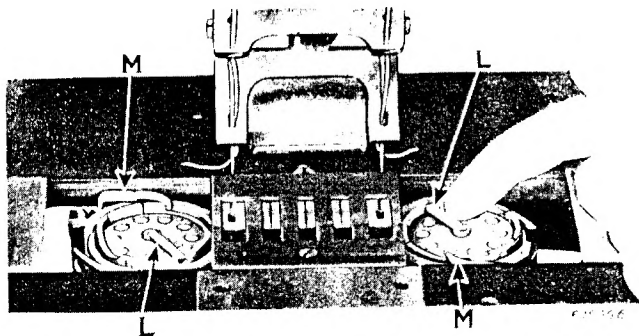

Fig. 7. Removing the Bobbin
Draw back the slide plates in the bed of the machine and turn the balance wheel until the bobbin case openers (M, Fig. 7) move clear of the bobbins. With the forefinger or a screwdriver, raise the latches (L) to a vertical position and lift out the bobbins.